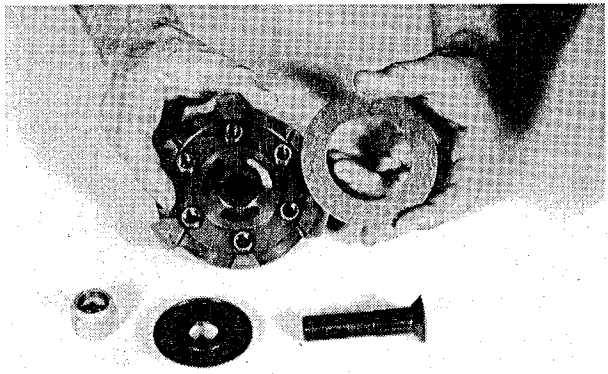
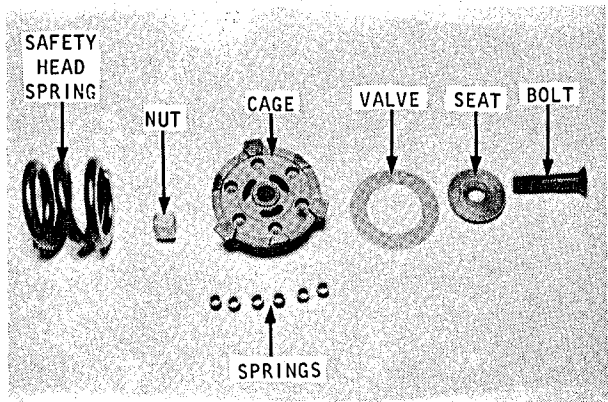

Figure 5
Figure 6
4. Remove seat, valve and springs (Figure 5) from the valve cage. Figure 6 illustrates the valve component.